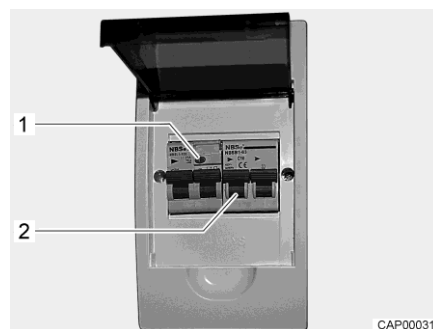

Fig. 86 230 V fuse box with safety cut-out and FI-switch
A fault current protection switch (FI-switch) in the fuse box protects the complete vehicle from fault current (0.03 A). A downstream safety cut-out (10 A) (Fig. 86,2) secures the 230 V power supply.
- When the vehicle is connected to the 230 V power supply, press the test button (Fig. 86,1). The fault current protection switch must trip.